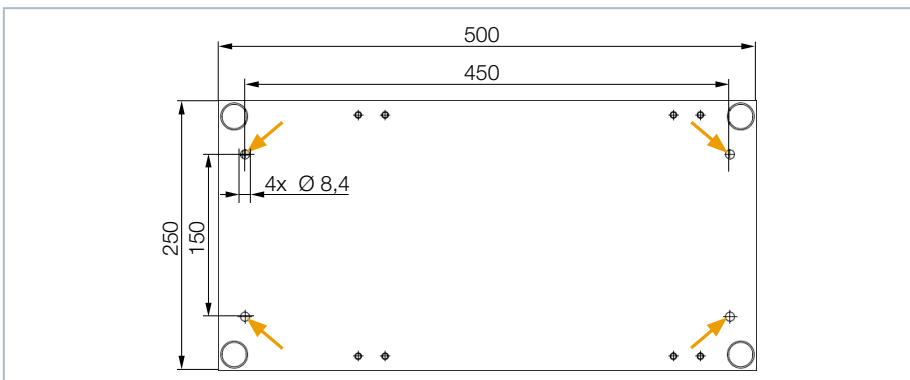

Fig. 5.1: Four through holes  $\varnothing 8.4$  mm (view from below)
1. After cooling down of the absorber unscrew 4 M8 fixing screws (see Fig. 5.1 on page 9).